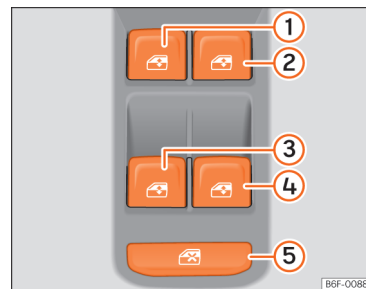

Fig. 57 Detail of the driver's door: window controls.
The safety control **>>> Fig. 57 ⑤** on the driver's door can be used to disable the electric window buttons on the rear doors.